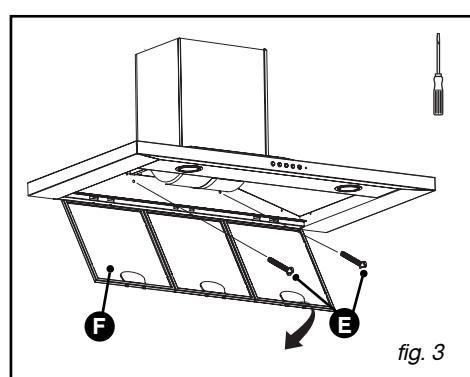

fig. 3
- Remove the filter cartridges (F/fig. 3).
- Screw in the bottom two screws (E/fig. 3).